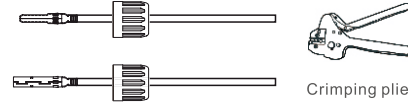

Figure 3.20 Crimp the contact pin to the wire
3. Crimp the contact pin to the wire using a proper wire crimper. (see Figure 3.20)